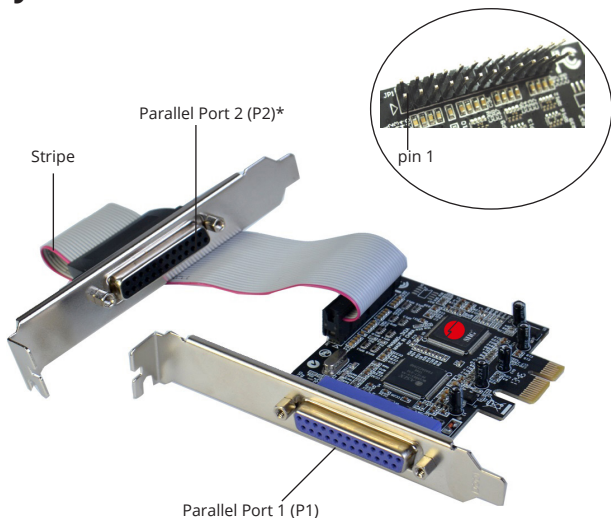

Figure 1
***Note:** When connecting the **DB25 ribbon cable** to **Parallel Port 2 (P2)**, position the ribbon cable so the stripe is on the side nearest to the slot bracket, see **Figure 1**.